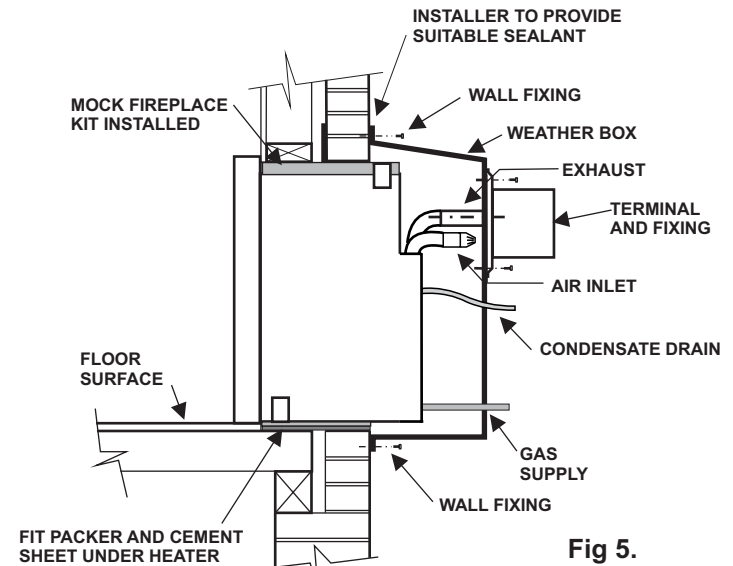

Fig 5.
2. Install the powerflue heater as shown in the heater installation instructions. In all situations the mock fireplace kit must be installed. Also refer to (Fig 5).